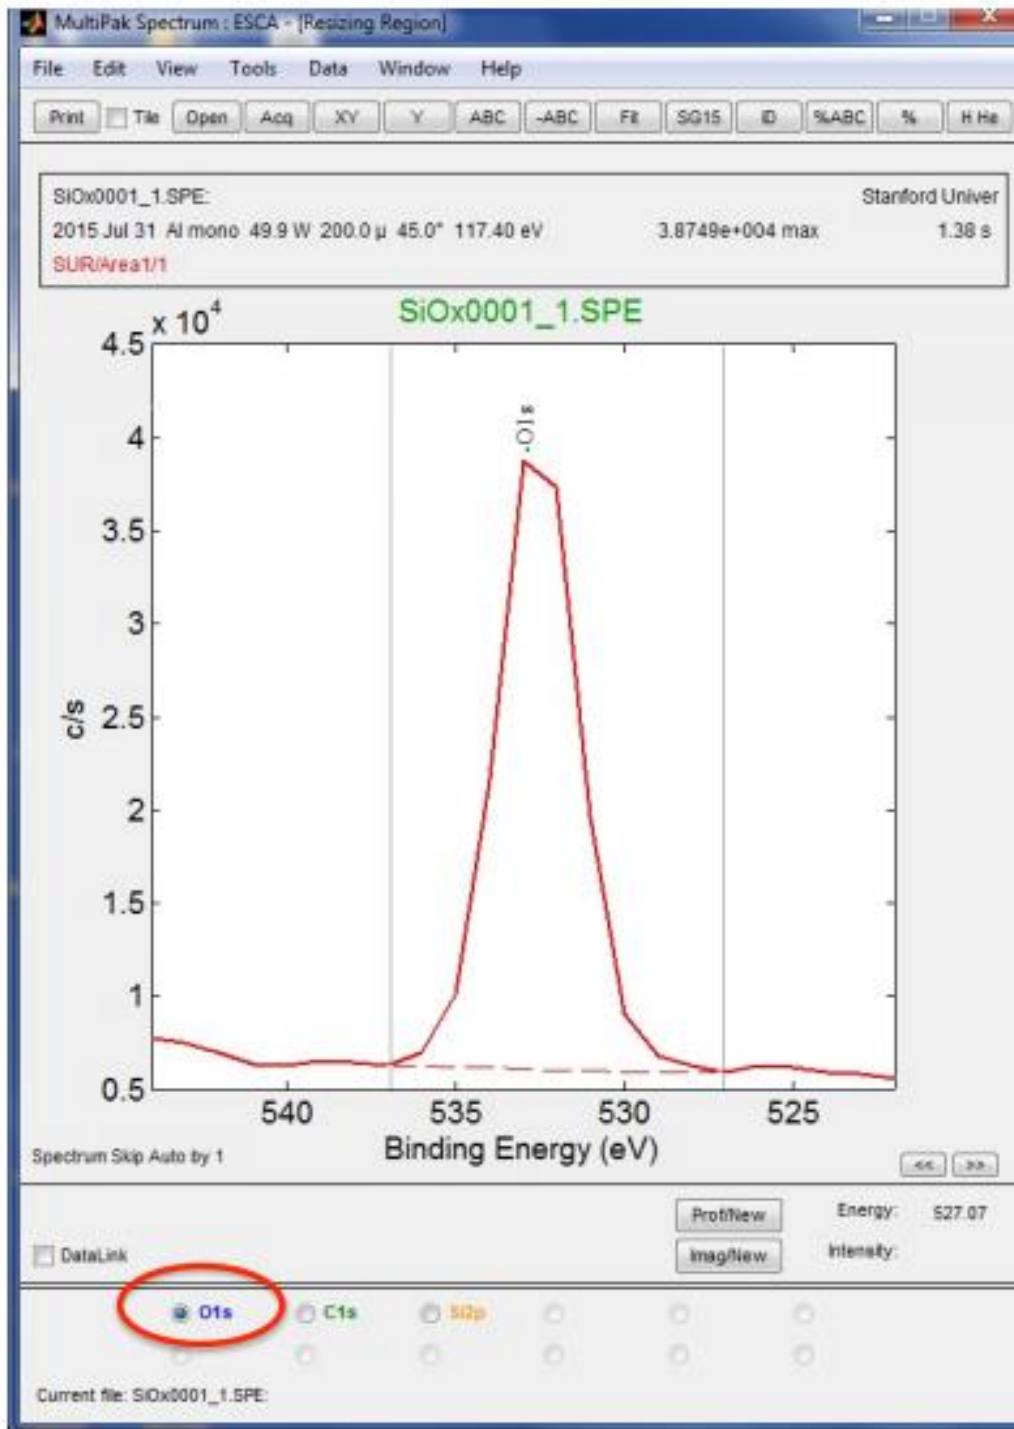

FIG 4. Adjust background.
2. Press **ID (9)** to perform Peak Identification. Identified peaks will have labels on the spectrum for display and radio buttons below for atomic composition calculation. See **FIG 4**.